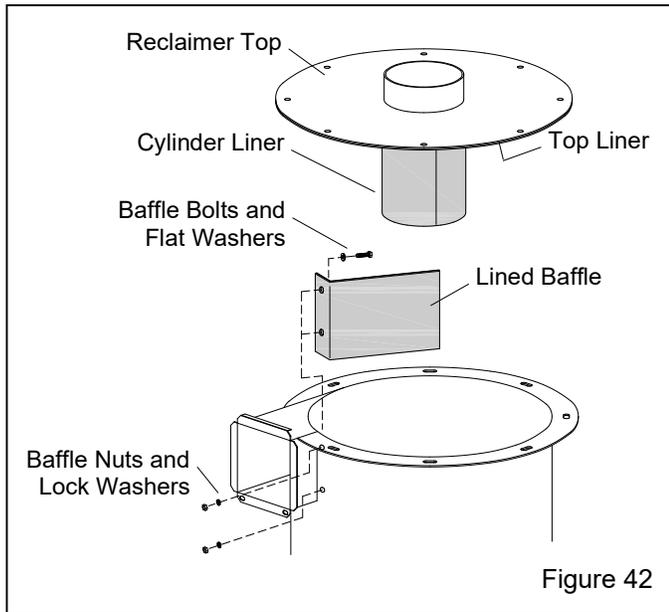

Figure 42
**7.11.7** Remove the bolts and nuts, securing the reclaimer top, and then remove the top (and top liner and cylinder liner if the reclaimer is currently lined), as shown in Figure 42
**7.11.10** Remove the nuts and washers located along the right side of the inlet and remove the lined baffle through the top of the reclaimer, as shown in Figure 42.